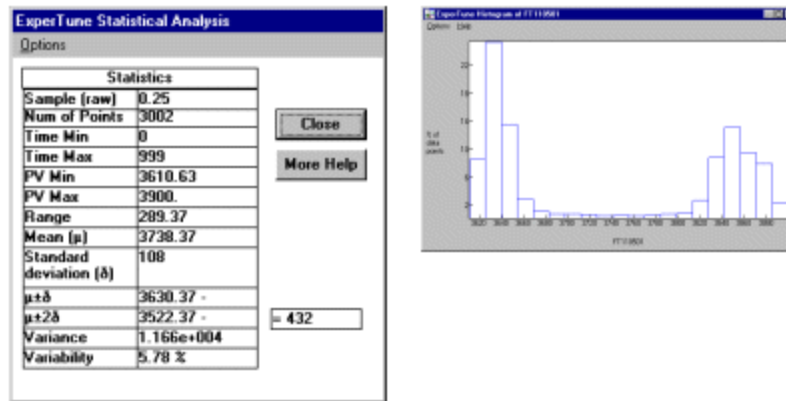

Figure 6
In a refinery, hidden cycling was detected in most loops of a unit. After analysis using power spectral density and cross correlation, a flow loop with cycling is found. This was undetectable looking at the DCS screen. The amplitude of the cycling was too small and the signal was filtered. The graphics in the upper half of Figure 5 shows what was seen on the DCS and the graphics in the lower half display the same information, but unfiltered. Figure 6 displays the same data, but zoomed.
In automatic mode, a loop with a sticky component will behave like the one in Figure 6. The process variable will look like a square wave. Sometimes, if the process has a large time constant or has an integrating process, it will not be easy to detect. The controller output will move like a triangular wave or a sawtooth. When the process variable is too low, the controller output is pushed and when the valve moves, the movement is too large. The process variable then goes too high and the controller moves the other way.
**Analysis of the variation in Figure 6 showed the process gain was close to 1. Observing the Stick/Slip cycling shows the stiction is close to 1%, since that is the valve movement.**
**Eliminating Stiction eliminated the cycling and corrected the product variability. Compare these results to Figures 6 and 7.**